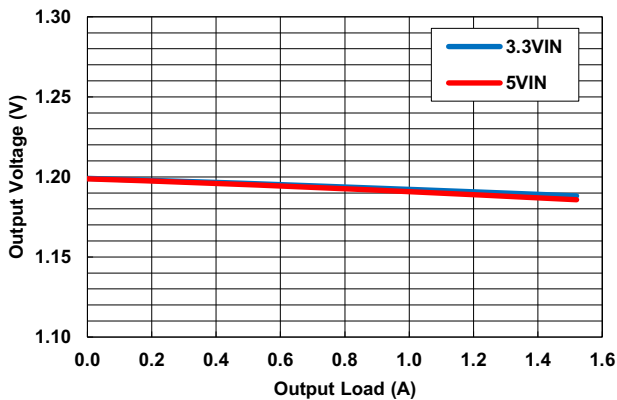

Figure 16.  $V_{OUT}$  Regulation vs Load,  $V_{OUT2} = 1.2V$
- Not tested in production. Characterized using evaluation board. See load regulation diagrams (Figures 16 through 19). +105°C  $T_A$  represents near worst case operating point.